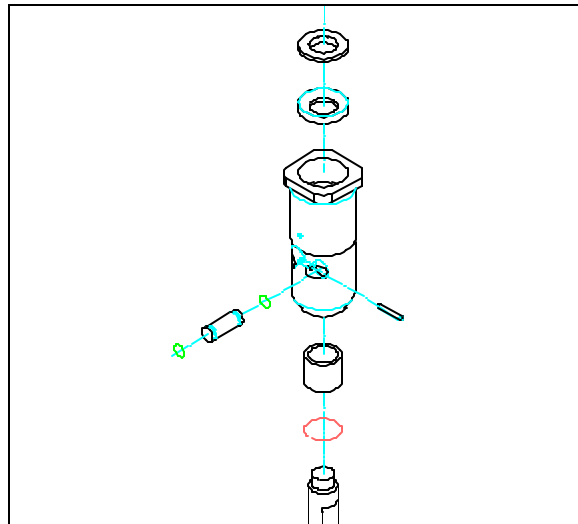

Figure 08-21: Insert Chuck Housing
1. Clean the insert chuck housing (Position 105) (Figure 08-21) and then install the insert bushing (Position 153). Install the circlip (Position 154) to retain insert bushing.